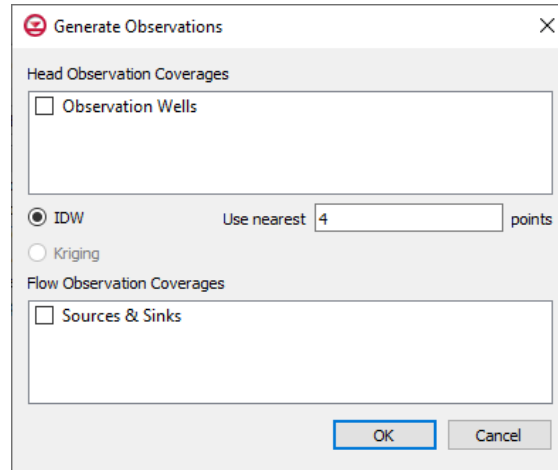

Figure 3 *Generate Observations dialog*
2. Click on **Generate PEST Obs. Data...** to bring up the *Generate Observations* dialog (Figure 3).